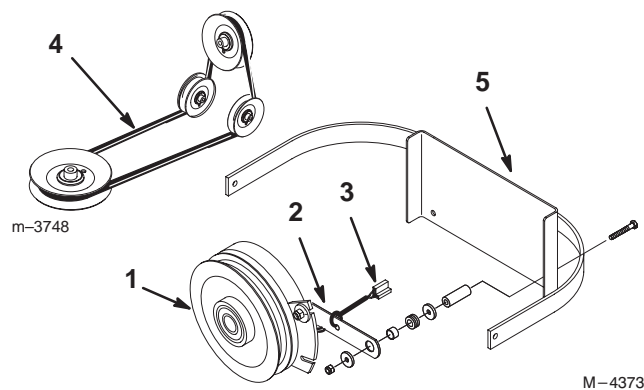

Figure 52
2. Remove the clutch retaining strap from machine frame and unplug clutch terminal from wire harness (Fig. 52).
3. Remove the PTO drive belt (Fig. 52).
5. Install clutch retaining strap and plug clutch terminal into main wire harness (Fig. 52).